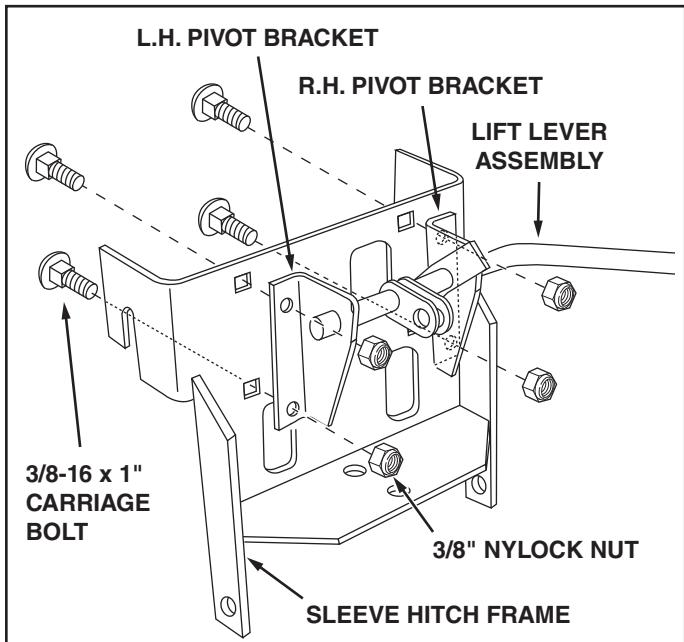

FIGURE 2
- Place the L.H. Pivot Bracket onto the end of the Lift Lever Assembly (the R.H. Pivot Bracket comes already installed on the assembly). See Figure 2.
- Attach the R.H. and L.H. Pivot Brackets to the Sleeve Hitch Frame using four 3/8" x 1" carriage bolts and 3/8" nylock nuts. See Figure 2.